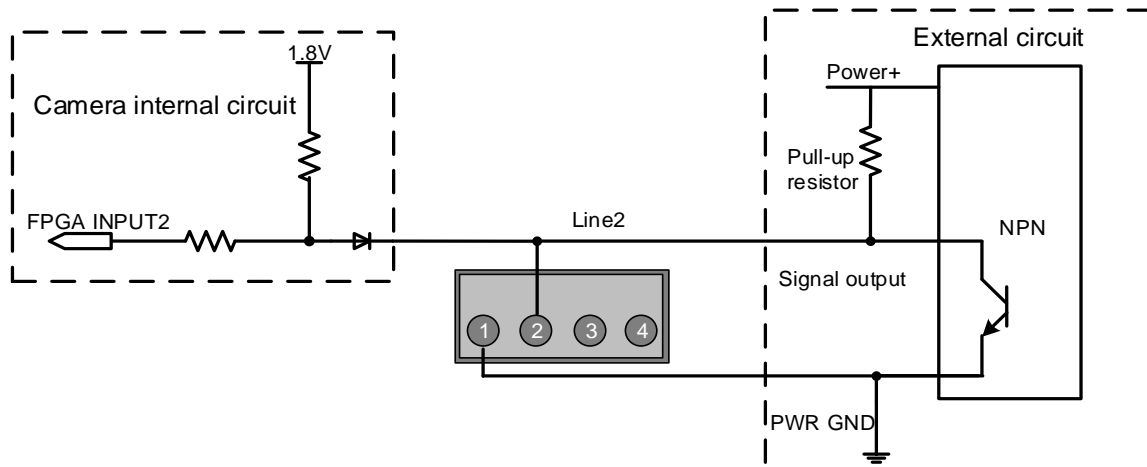
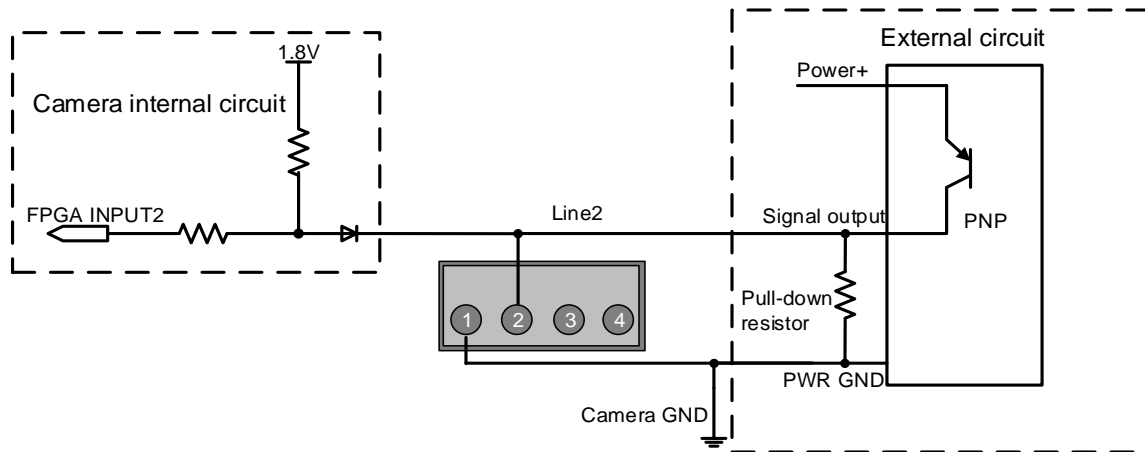

Figure 7-7 NPN photoelectric sensor connected to Line2 input circuit
Figure 7-8 PNP photoelectric sensor connected to Line2 input circuit
- When input of Line2 is high, input current is lower than 100uA. When input of Line2 is low, input current is lower than -1mA. The connection method between Line2 and NPN/PNP photoelectric sensors is shown in Figure 7-7 and Figure 7-8. The relationship between the pull-up resistor value and the external input voltage is shown in Table 7-3